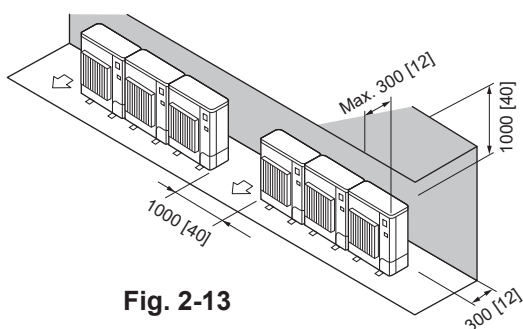

Fig. 2-13
- Obstacles at rear and above only (Fig. 2-13)